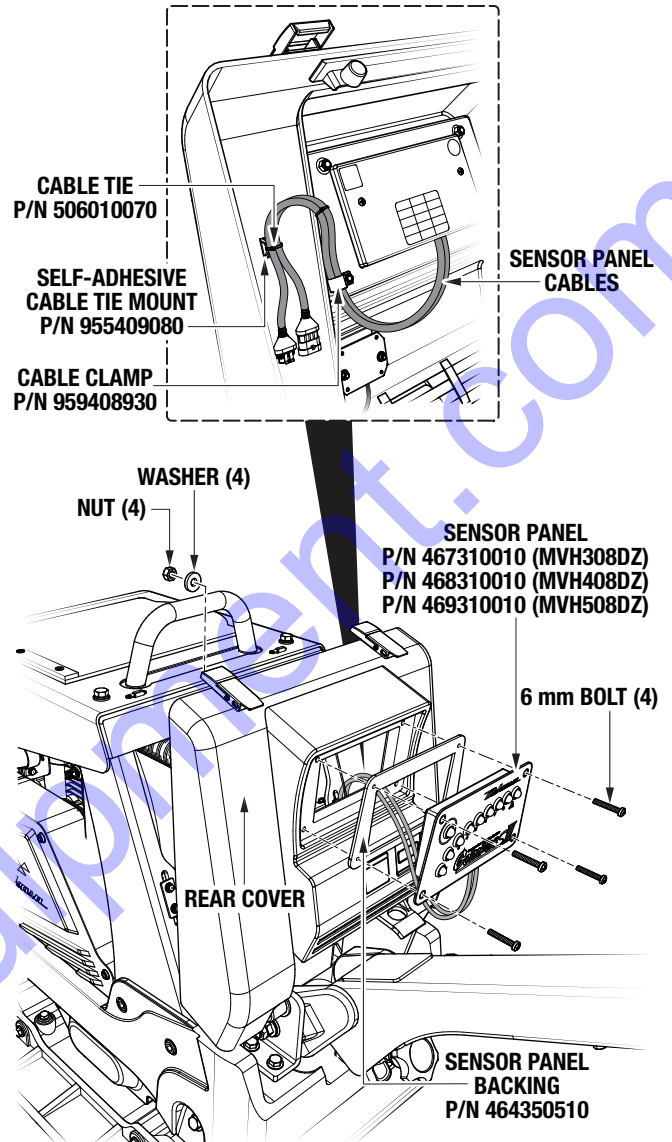

Figure 11. Sensor Panel Installation
3. Place the sensor panel backing (P/N 464350510) onto the back of the sensor panel (P/N 467310010 [MVH308DZ], P/N 468310010 [MVH408DZ], or P/N 469310010 [MVH508DZ]). See Figure 11.
4. Place the sensor panel into the open space in the rear cover (Figure 11).
5. Place the large cable clamp (P/N 959408930) onto the two cables extending from the back of the sensor panel. See Figure 11.
6. Secure the sensor panel to the rear cover with the four 6 mm bolts, nuts, and washers that were removed earlier (Figure 11). **MAKE SURE** the cable clamp (P/N 959408930) is secured to the inside of the rear cover with a 6 mm bolt as shown.
7. Secure the sensor panel cables to the inside of the rear cover with a cable tie (P/N 506010070) and the self-adhesive cable tie mount (P/N 955409080). See Figure 11.